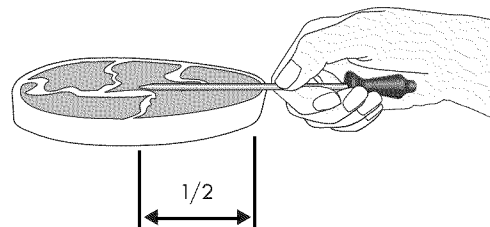

Fig.2
- For bone-in ham or lamb, insert meat probe into the center of lowest large muscle or joint. For dishes such as meat loaf or casseroles, insert meat probe into center of food. To find center of the food visually measure using probe as a guide (See Fig. 2). When cooking fish, insert meat probe just above the gill.